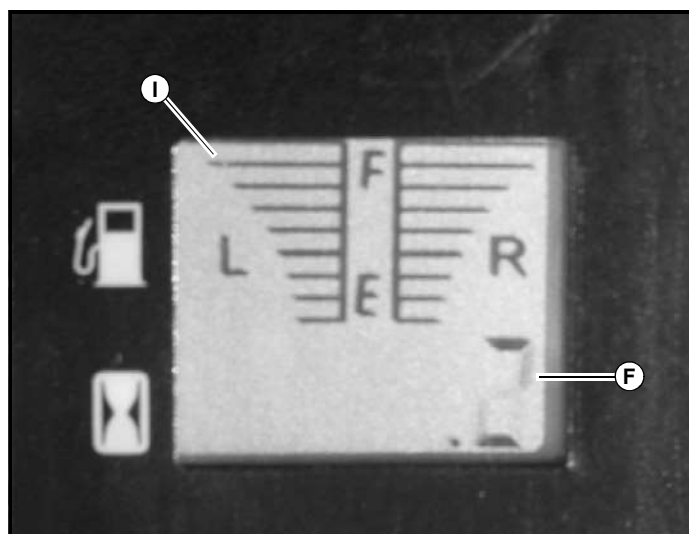

Figure 3-2
- F. Electronic hour meter (Figure 3-1 & Figure 3-2)** — registers 1/10 hour increments up to 9,999.9 total hours. Connected to the ignition switch, the meter records the accumulative time while the ignition key is switched to the RUN position.
- I. Fuel tank gauge (Figure 3-1 & Figure 3-2)** — this gauge shows the fuel level for each fuel tank. The right gauge indicates the fuel in the right tank and the left gauge indicates the fuel in the left tank.